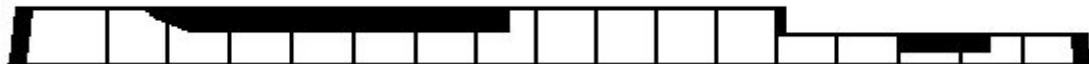

Figure 5
1.11.2.3. Warships that had casemates for cannon located directly below the cap rail may extend the impenetrable area down from the cap rail to encompass the casemate as per Figure 5.